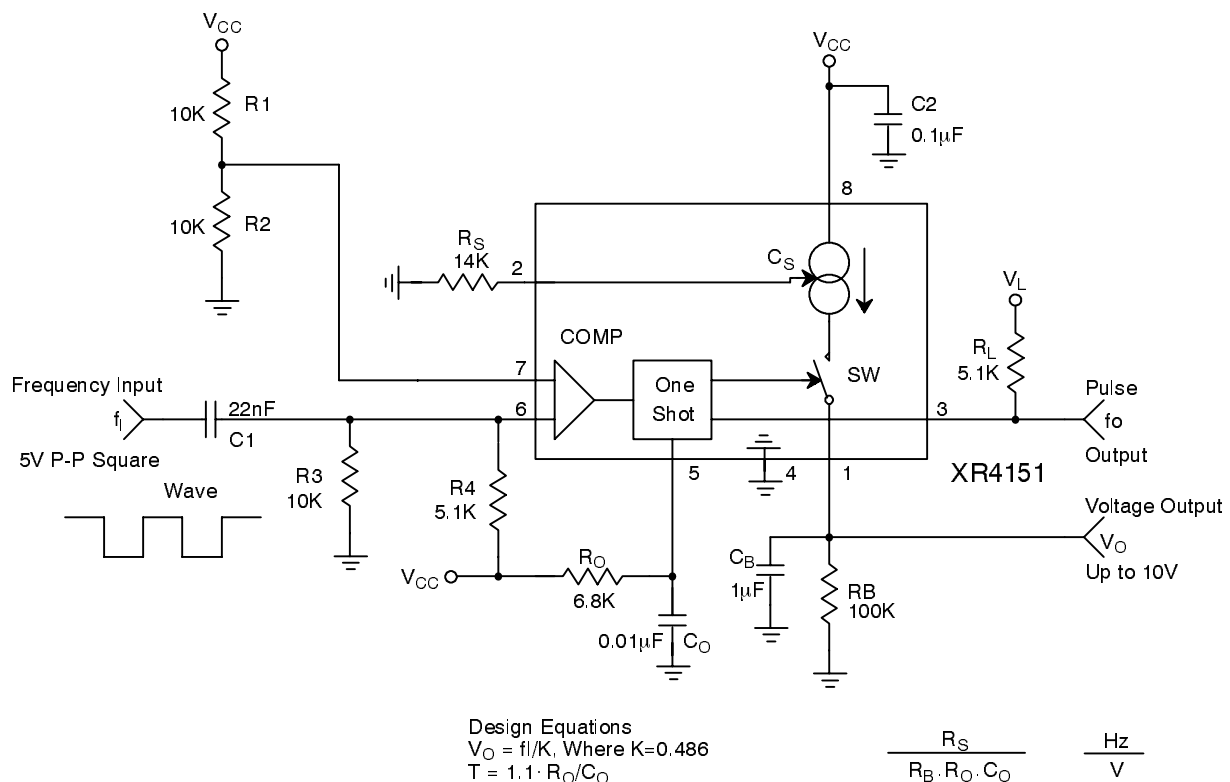

Figure 4. Frequency to Voltage Converter
The XR4151 can be used as a frequency-to-voltage converter. Figure 4 shows the single-supply FVC configuration. With no signal applied, the resistor bias networks tied to pins 6 and 7 hold the input comparator in the off state. A negative going pulse applied to pin 6 (or positive pulse to pin 7) will cause the comparator to fire the one-shot. For proper operation, the pulse width must be less than the period of the one-shot,  $T = 1.1 R_0 C_0$ . For a 5Vpp square-wave input the differentiator network formed by the input coupling capacitor and the resistor bias network will provide pulses which correctly trigger the one-shot. An external voltage comparator can be used to “square-up” sinusoidal input signals before they are applied to the XR4151. Also, the component values for the input signal differentiator and bias network can be altered to accommodate square waves with different
- I. Design a precision VFC (from *Figure 4*) with  $f_0 = 100kHz$  and  $V_{IO} = -10V$ .